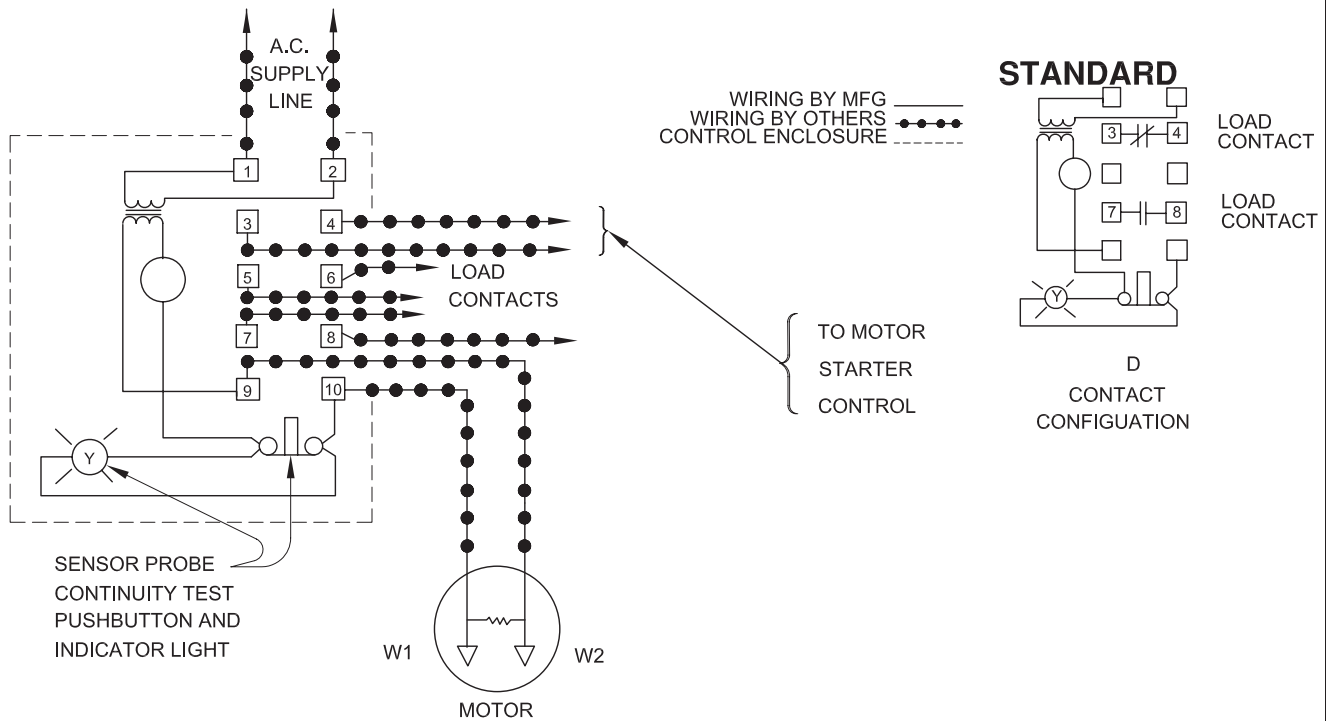

FIGURE 5
- A moisture detection circuit with continuity test circuit (See Fig. 5)
To expose outer shaft seal (4) for examination, remove Impeller and Volute per Section F-1.1. Set motor assembly (1) in the inverted position to prevent loss of oil. Remove snap ring from motor shaft, then retaining ring (5), spring (4C) and rotating member (4B) from shaft, See Figure 5 Examine all seal parts and especially contact faces. Inspect seal for signs of wear such as uneven wear pattern on stationary members, chips and scratches on either seal face. **DO NOT** interchange seal components, replace the entire shaft seal (4). If replacing seal, remove stationary (4A) from mounting plate by prying out with flat screw driver.